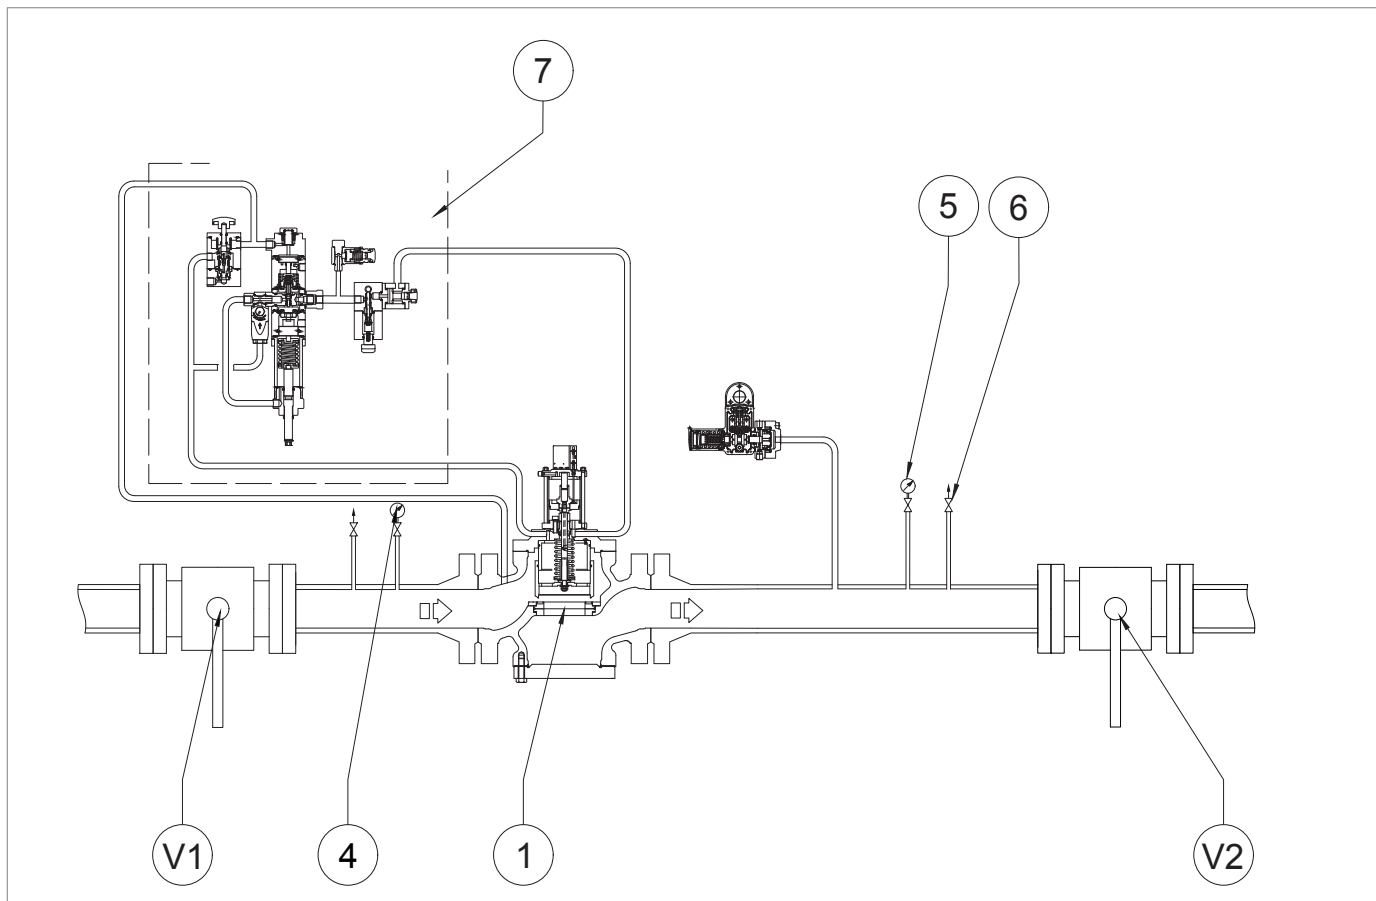

Fig. 8.11. Sealing of the HBC 975 slam-shut valve when closing
1	<p>By acting on the main regulator, increase the downstream pressure up to the tripping value of the slam-shut valve, to check for proper calibration.</p> <div style="border: 1px solid blue; padding: 5px;"> <p>! NOTE!</p> <p>Check the pressure referring to the pressure gauge (fig. 8.11, ref. 5) downstream of the main regulator.</p> <p>If the slam-shut valve:</p> <ul style="list-style-type: none"> <li>• trips before the expected pressure value: screw in (clockwise) the adjustment ring nut (13) so as to further compress the spring (11);</li> <li>• does not trip at the expected pressure value: unscrew (anticlockwise) the adjustment ring nut (13) so as to relieve the spring (11).</li> </ul> </div>
2	By opening the vent (fig.8.11, ref. 6), decrease the pressure in the downstream section to the calibration value of the main regulator.
3	Close the vent (fig.8.11, ref. 6).
1	Open the vent (fig.8.11, ref. 6) to the atmosphere and keep it open for the next steps.
2	<p>Decrease the downstream pressure to the minimum tripping pressure of the slam-shut device by adjusting the pilot.</p> <div>  NOTE! </div> <p>Check the pressure referring to the downstream pressure gauge (fig. 8.11, ref. 5).</p> <p>If the slam-shut valve:</p> <ul style="list-style-type: none"> <li>• trips before the expected pressure value: unscrew (anticlockwise) the adjustment ring nut (15) so as to relieve the spring (17);</li> <li>• does not trip before the expected pressure value, screw in (clockwise) the adjustment ring nut (15) so as to further compress the spring (17).</li> </ul>
5	Open the vent again (fig. 8.11, ref. 6).
10	Close the vent (fig.8.11, ref. 6).